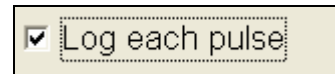

Figure 16.4.4B
3. Next check the **Log each pulse** box if you want them to show up in your alerts (Figure 16.4.4B).